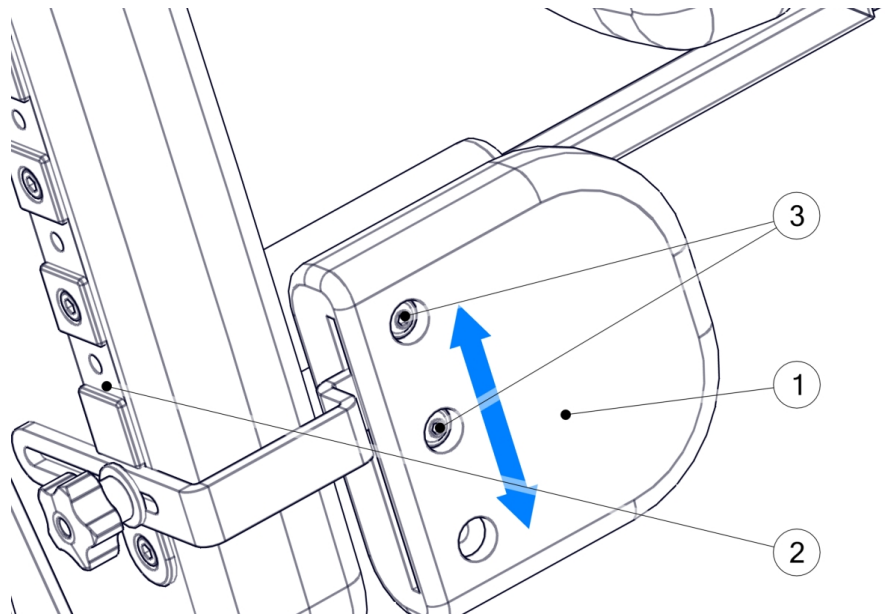

Fig. 11
Additional regulation (Fig. 11) of the hip support. Construction of the hip support enables an additional height regulation within the scope of mounting in one slot of the guiding rail (2). In order to implement this adjustment, it is essential to unscrew all screws (3) and then move the hip support into the second slot taking advantage of the remaining assembly holes in the hip support. After moving the hip support, tighten the screws (3) in the new location.